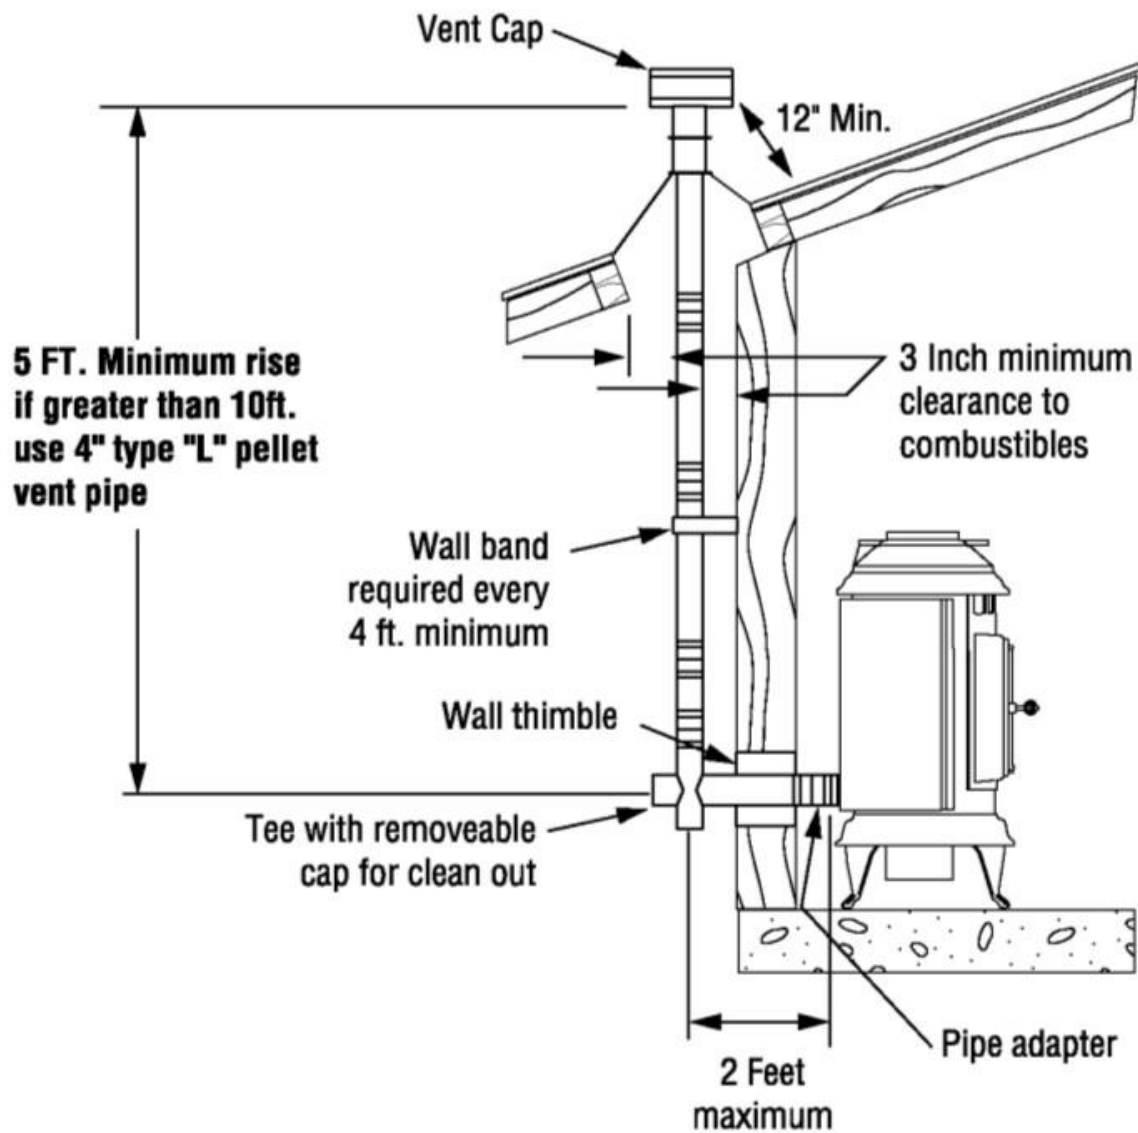

FIGURE 3
- a. **ALL VERTICAL RUNS REQUIRE 4" TYPE L PIPE. (FIGURE 3 and 4)**